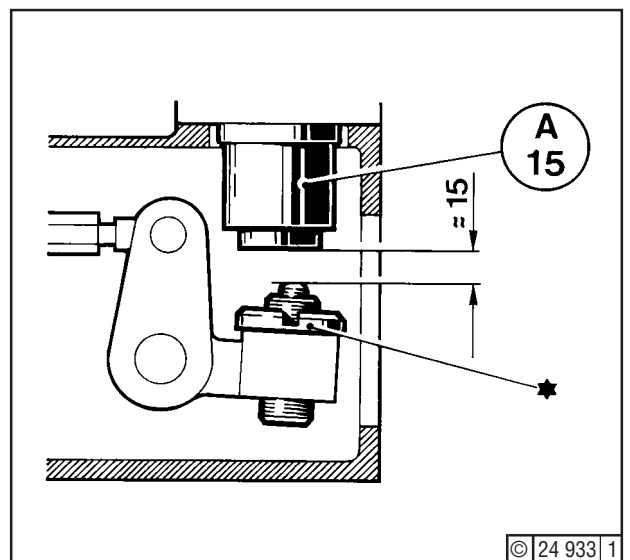

Fig. 11
8. Refit the tools (see under 5.) , then check whether, at operating position of the spring-loaded cylinder A15 (Fig. 11) and contact of the control rods at the check stops (points A18 and A19), there is a clearance of approx. 15 mm.